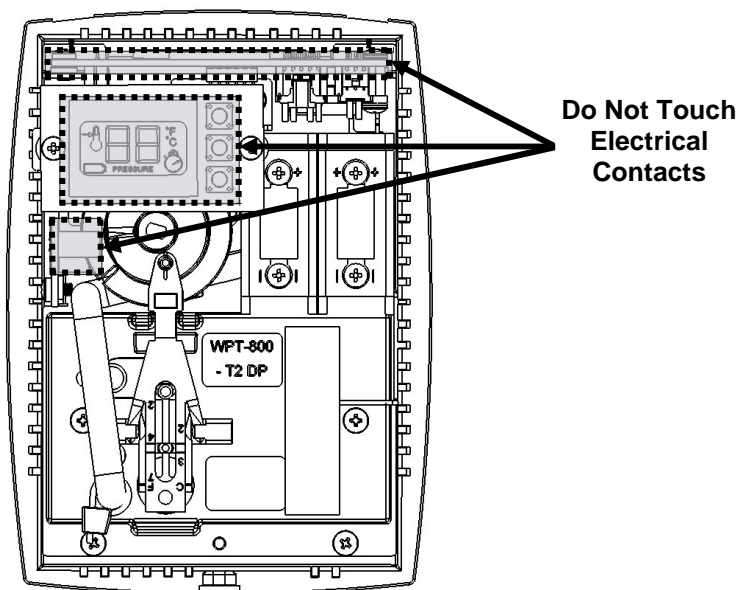

Figure 1. Handling the WPT
- Hold and handle the unit as shown in Figure 1, using the external bottom plastic cover as the support.